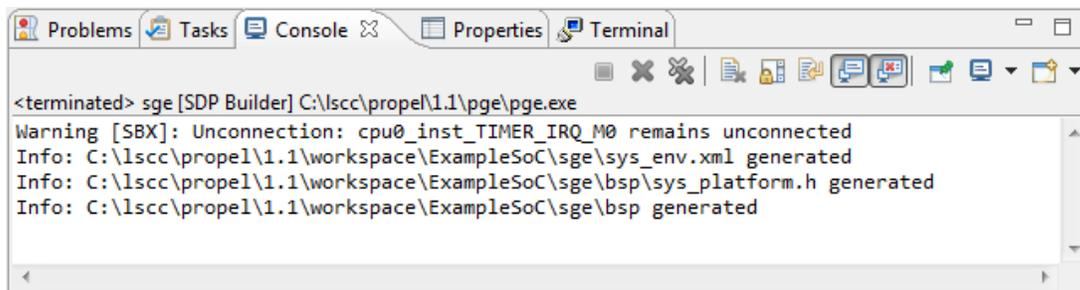

Figure 3.16. Build Result of SoC Project
3. Check the building result in the **Console** view (Figure 3.16).